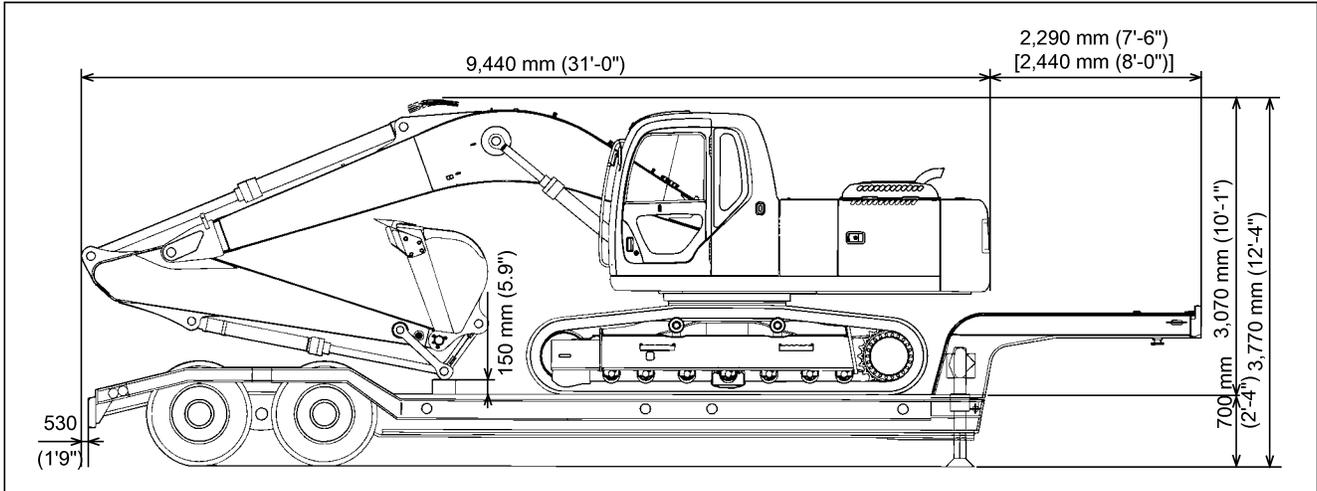

FIGURE 5.2A
- Know the total weight, length, width and height of the machine being transported. See Figures 5.2A and 5.2B.